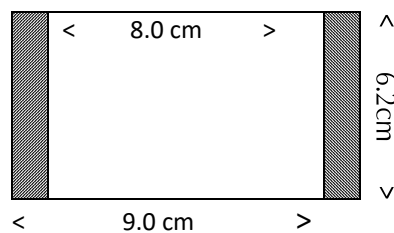

Figure 1
Carefully remove the **VITRO-SKIN®** from its protective packaging. Cut the **VITRO-SKIN®** into 6.2 cm x 9.0 cm rectangles using a high-quality paper cutter or shears (see figure 1). Place the film in a closed, controlled-humidity chamber (see Part One) for **16-24 or 6-8 hours** respectively prior to product application. VITRO-SKIN® should not be left in the hydration chamber for more than 24 hours. The humidity in the chamber is regulated by a solution of 85% water / 15% glycerin, placed in the bottom of the chamber. *The substrate is placed above the liquid on a shelf or tray.* This step insures reproducible hydration of the **VITRO-SKIN®** prior to product application.
3. Remove a 6.2 cm x 9.0 cm piece of hydrated *VITRO-SKIN*[®] from the hydration chamber and place it on the plastic-covered foam block from the IMS *VITRO-SKIN*[®] Starter Kit (used to simulate the flexibility of the human dermis). Product application **must** be made to the "skin topography" side of the *VITRO-SKIN*[®] (the dull or non-shiny side). Pipette the 100 μ l of product evenly across a **6.2 cm x 8.0 cm** section of the *VITRO-SKIN*[®] (Figure 1) by dotting it at approximately 30 equally spaced points across the substrate (this results in a product dose of 2 μ l/cm²). Use the outer 0.5 cm (shaded areas in Figure 1) to hold the substrate while applying the product (*no product should be spread over the shaded areas in Figure 1*).